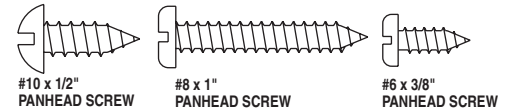

FIGURE 3
3. With door held in position, and hinge z-bar tight against wood trim, install five (5) #8x1" panhead screws through pre-drilled holes in outside face of hinge z-bar. **See Figure 3**
4. Open door and install one (1) #8x1" panhead screw through pre-drilled hole at **each** hinge into the jamb side of wood trim.